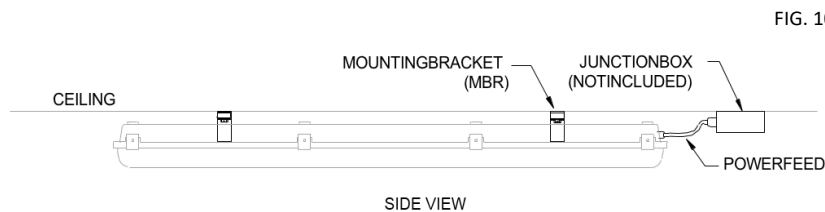

FIG. 10
5. MAKE FINAL WIRING CONNECTIONS (REFER TO WIRING INSTRUCTIONS AT END OF THIS SECTION), FIG.10.